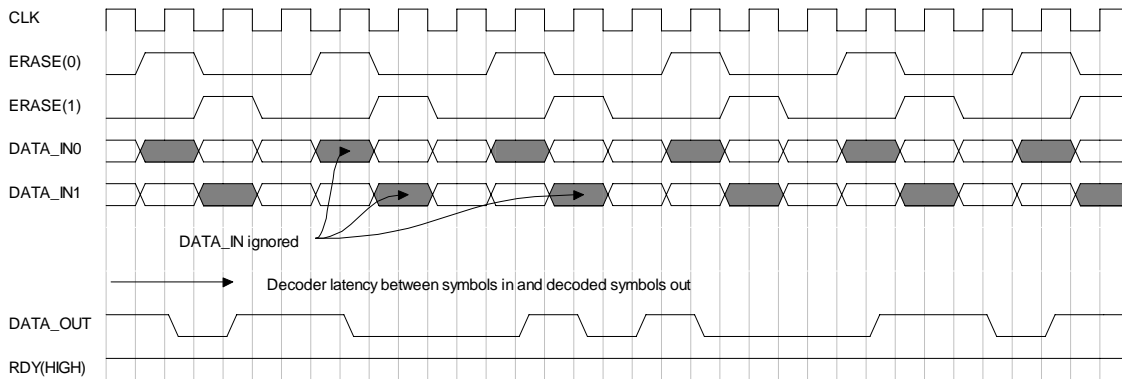

Figure 22: Viterbi Decoder with Erasure Input Following a Rate 3/4 Pattern
For a decoder with erasure, the presence of a null symbol on the DATA_IN pins is indicated by the erasure pin going high. ERASE(0) corresponds to DATA_IN0, ERASE(1) corresponds to DATA_IN1, etc. The data on the DATA_IN bus is ignored when the corresponding erasure pin is high. See the timing diagram in Figure 22 for a decoder working with external rate 3/4 erasure.